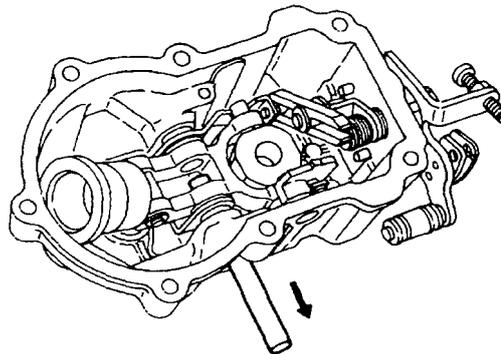

Figure 95 Removing the Tension Lever Pivot Shaft
- s. Unhook the cancel spring from the tension lever and push the tension lever pivot shaft out through the hole in the side of the governor housing (Figure 95).